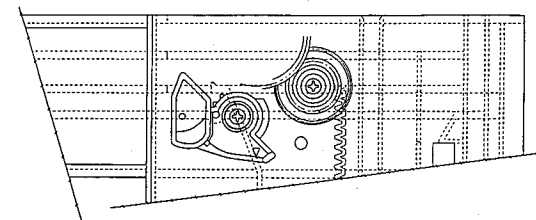

Fig. 4
- Insert the Tray Ass'y into the guides on both sides of the PU Mechanical Unit (Right : roller, Left : guide tray at left front). At this time, the Tray Gear and the Change Lever should be positioned as shown in Fig. 4 with respect to the Tray Ass'y.